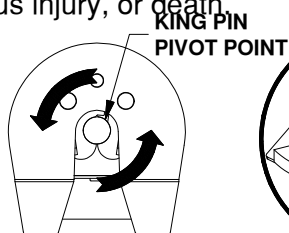
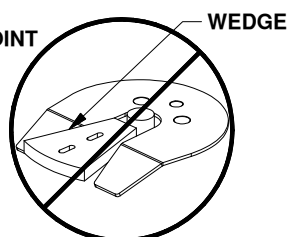

Figure G1:
Figure G2:
**WARNING:** Do not use the slider 5th wheel hitch with any device that changes the location of the king pin pivot point. The king pin on your trailer must rotate in the jaws of the Companion coupler, see Figure G1. Preventing the king pin from rotating within the jaws of the Companion coupler with a wedge, see Figure G2, or any other device, such as a Reese Sidewinder® or Reese Revolution®, could result in property damage, serious injury, or death.